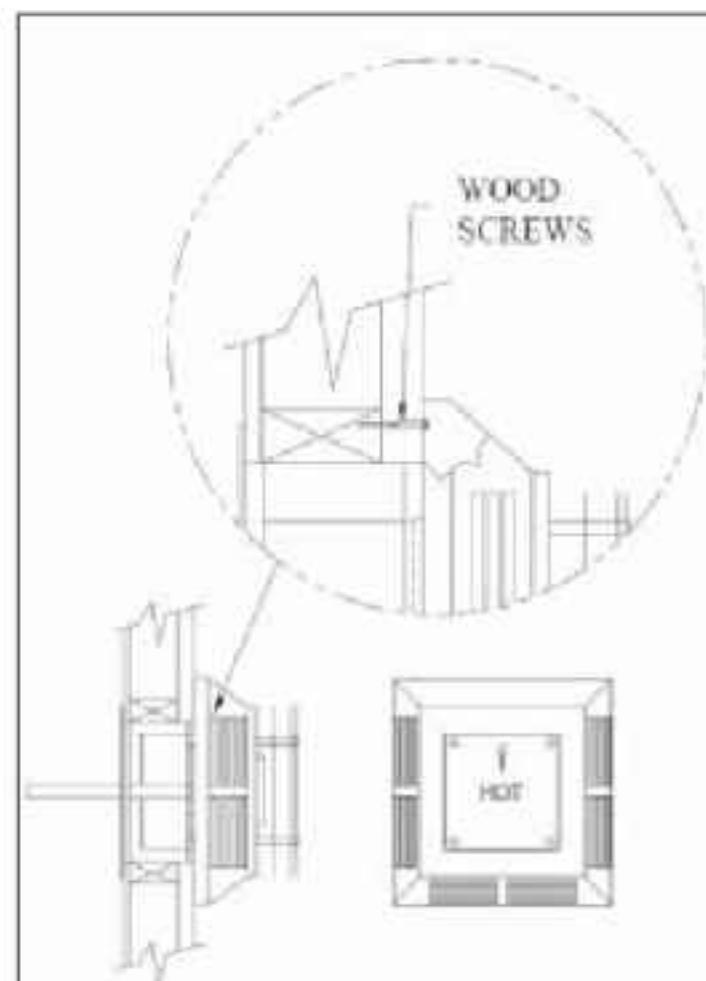

Figure 36: Fastening Horizontal Termination Cap in Place.
- (1) Any horizontal run of vent must have a  $\frac{1}{4}$  inch (6mm) rise for every 1 foot (305mm) of run towards the termination. Never allow the vent to run downward. This could cause high temperatures and may present the possibility of a fire.
- (2) The location of the horizontal vent termination on an exterior wall must meet all local and national building codes, and must not be easily blocked or obstructed. Termination clearances must comply with the VENT TERMINATION RESTRICTIONS section.
**Step 4.** For a Square Horizontal Vent Termination, place the vent cap in the center of the square hole and attach to the exterior wall with the four wood screws provided (refer to Figure 36). Before attaching the Vent Termination to the exterior wall, run a bead of non-hardening sealant around its outside edges, so as to make a seal between it and the wall. If you are using a Round Horizontal Vent Termination, place an exterior Wall Firestop over the square hole. Run a bead of non-hardening sealant around the edges of the Wall Firestop, and attach the Wall Firestop to the wall with the four wood screws provided. The arrow on the vent cap should be pointing up. Ensure that proper clearances to combustible materials are maintained.